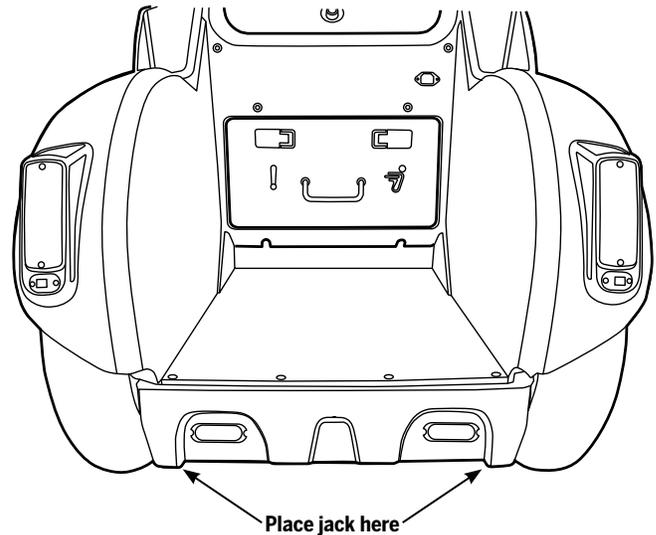

Figure 41: Rear Lifting Points
3. Place the vehicle jack under the back of the SE-3 Patroller skid plate, close to the wheel being changed (**Figure 41**). Raise the SE-3 Patroller until the wheel is just off the ground.
2. Jack up the SE-3 Patroller (**Figure 41**).